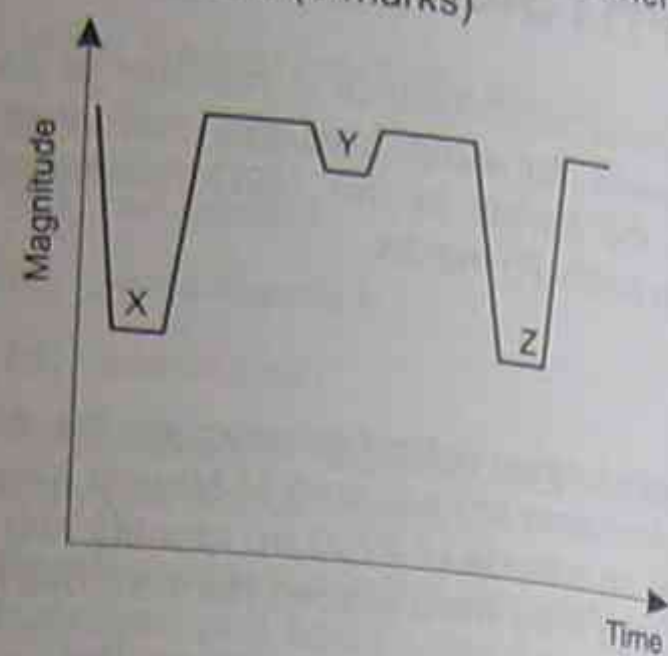

Figure 5.40
- (h) A star is observed over a period of time and is found to produce a light curve as shown in Figure 5.40.